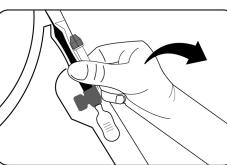

Figure 12
- Remove the loaded Delivery Catheter and the BareWire Filter Delivery Wire from the tray by gripping the black handle and the Torque Device together and gently pulling them out of the tray (Figure 12).